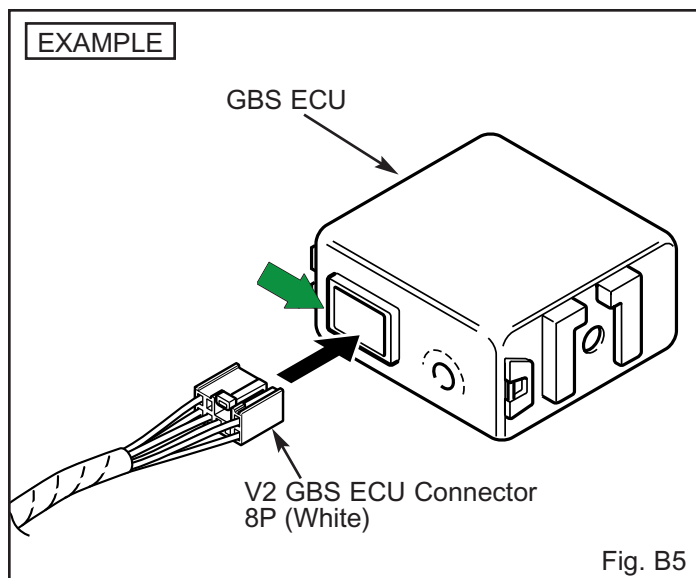

Fig. B5
5. Plug in the V2 harness' white 8P connector to the GBS ECU. (Fig. B5)